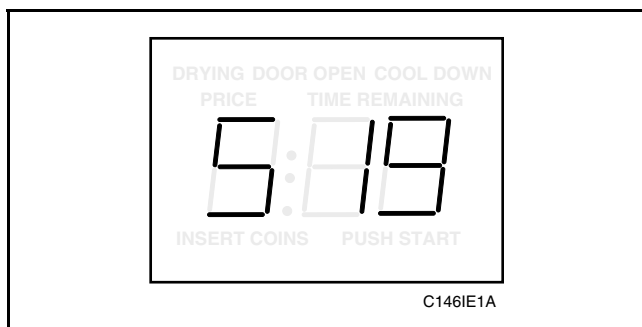

Figure 76
- While pressing and holding the HIGH TEMP pad with one hand, press the MED TEMP pad with the other hand. Programmable option number 1, (Audio Signal “SIg”), will appear in the VFD, see *Figure 76*.